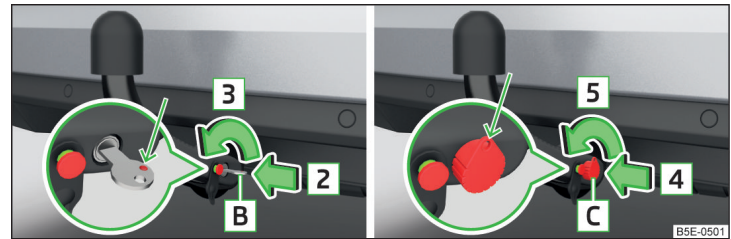

Fig. 304 Unlock lock: Key version 1 / key version 2
- Turn key **B** in the direction of arrow **3** so that the red marking is pointing upwards » Fig. 304.
- Turn key **C** in the direction of arrow **5** so that the eye of the key is pointing upwards » Fig. 304.